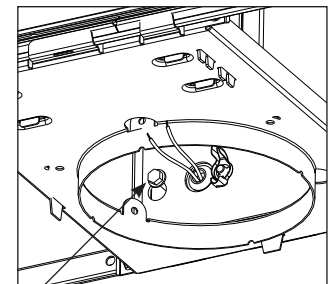

Figure 15
Step 5. Loosen screws on driver plate (1 each side). It is not necessary to remove the screws completely, a few turns is enough to free the driver plate (Fig. 15).